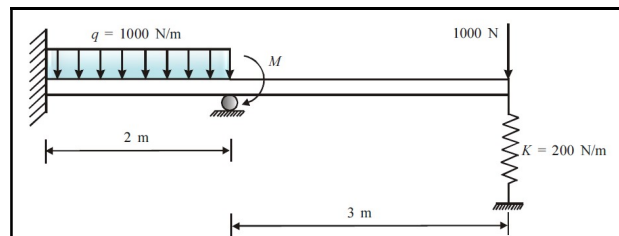

Figure 3
5. Consider the beam shown in Figure 3 below. The beam has been loaded as shown in figure and is made of a material having modulus of elasticity $E = 190$ GPa. The cross-sectional area of the beam is rectangular and having dimensions 20mm width and 30mm height. Consider two beam elements. Assemble element equations. Incorporate the boundary conditions. Form the final equations (to be solved) in matrix form (Solution is not required).